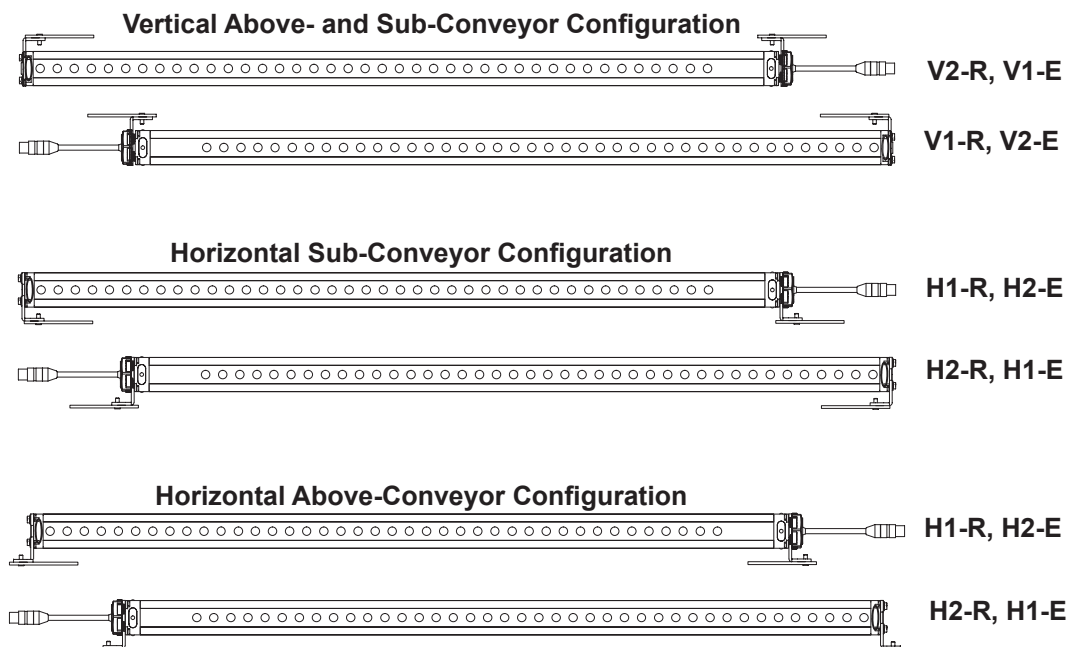

Figure 17 Beam Array Bracket Orientation
9. Attach the mounting brackets to the beam arrays and orient them according to Figure 17. Position the brackets for the receivers and emitters 180 degrees apart, in a parallel orientation, to allow for proper alignment.